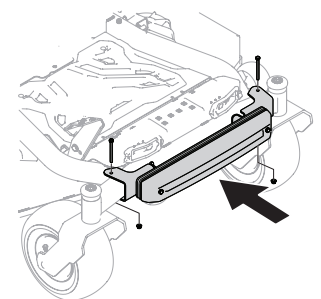

Figure 28
3. Visually center the weight bar assembly on the tractor and using two 7/16" Hex head capscrews (710-3056) and two nuts (712-04063) secure the counter weight assembly to the tractor as shown in Figure 28.